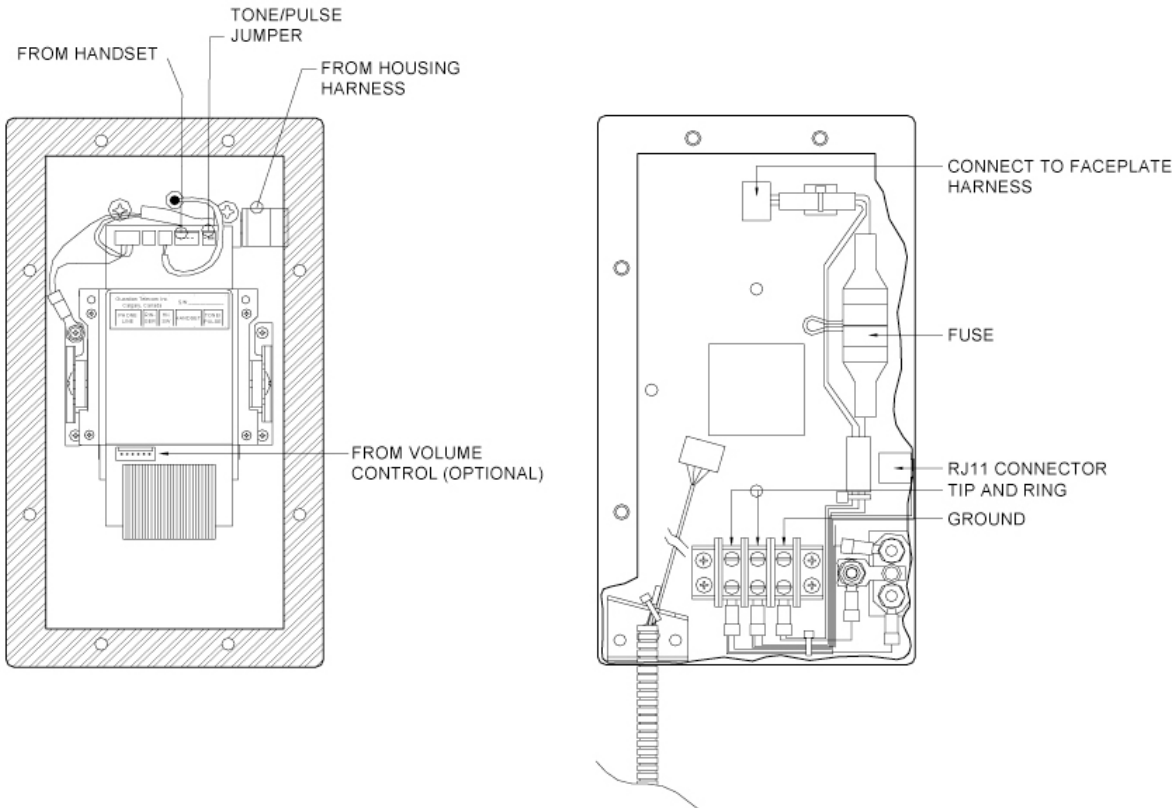

Figure 4 - Electrical Connections
**See:** *Figure 4 - Electrical Connections*
**See:** Figure 4 -